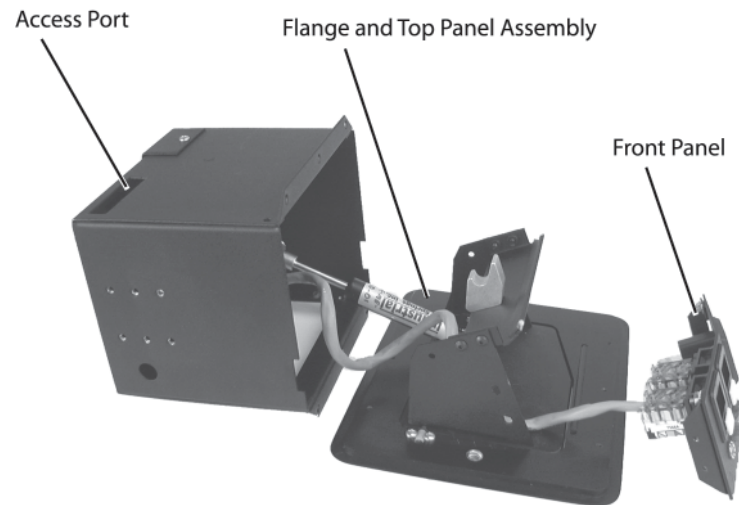

Figure 4 — Open enclosure with front panel removed
- Remove and retain the four screws that secure the lower enclosure to the flange and top panel assembly, then turn the enclosure onto its back side (see Figure 4).
- Through the access port (see figure 4), with a tweezers, push down on and gently twist on the front of the RJ-45 connector detent to disconnect the connector from the lower enclosure bezel plug-in.